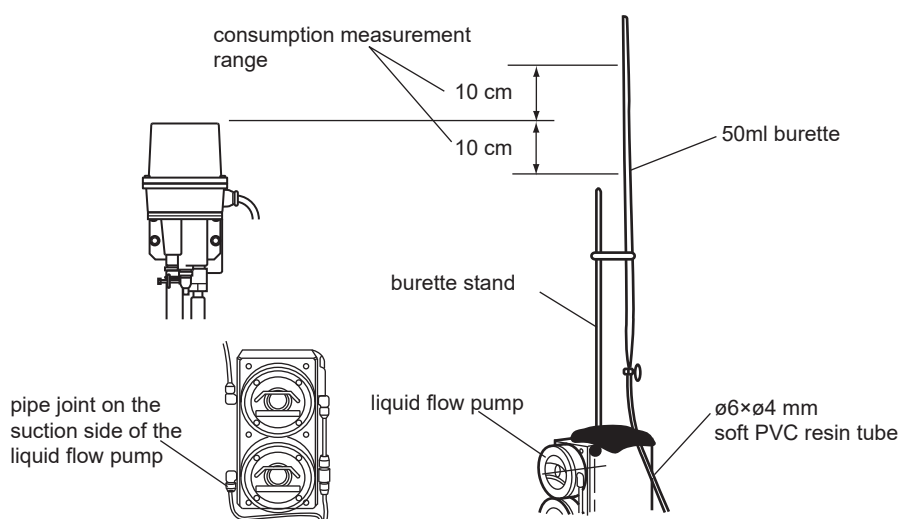

Figure 3.2 Setting burette
See Figure 3.2 for how to set the burette.
- (1) On the liquid pump flow rate adjustment screen, check that the measurement volume on the reagent side in the top row is 4.5 mL.
- (2) Tap the [Pump On / Off Button] to stop the operation of the liquid flow pump.
- (3) Close the ball valve (* 1) on the reagent distribution line. Then, remove the pipe connected to the pipe joint on the suction side of the reagent flow pump.
- (4) Connect the prepared soft PVC resin tube to the burette and fill the tube and burette with water (reagent substitute). Then, connect the other end of the tube to the piping joint on the suction side of the reagent liquid flow pump, and set the burette as shown in Fig. 3.2. Consumption is measured within ± 10 cm of the top of the detector as standard, as shown in Figure 3.2.
- (5) Restart the operation of the flow pump.
- (6) The screen returns to the liquid pump flow rate adjustment screen. Tap the [Start / Stop] button when the liquid level in the burette drops to the reference scale (optionally defined) within the limit range. The count will start.
- (7) Tap the [Pump On / Off] to stop the liquid flow pump. Remove the tube connected to the piping joint on the suction side of the reagent liquid flow pump, and replace the piping.
- (8) Open the ball valve on the reagent distribution line. Operate the liquid flow pump.